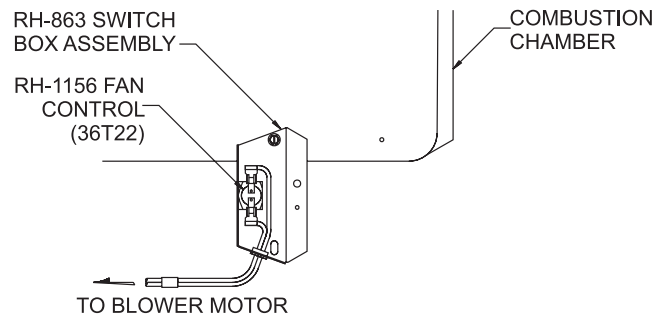

Figure 9
7. With the switch box perpendicular to the combustion chamber, align the round clearance hole on the switch box with the left screw hole on the combustion chamber. **See Figure 9.**